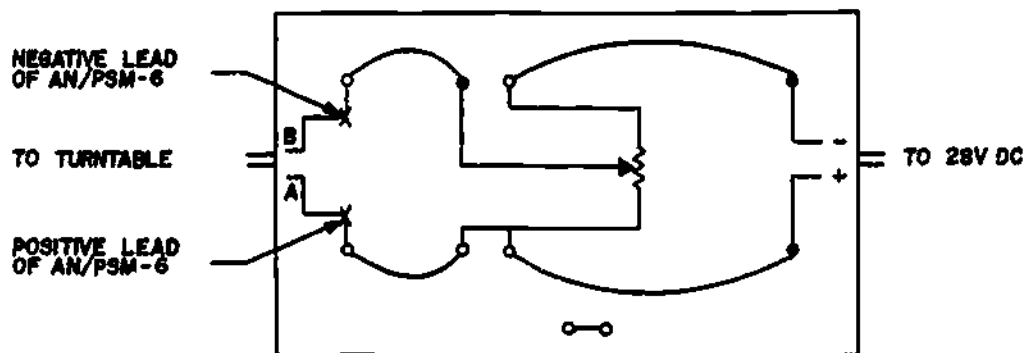

Figure 2. Power Control Panel Wiring Diagram.
(1) Make sure that the turntable RATE CONTROL is in the OFF position. Plug the turntable into a 115V AC, single phase, 60Hz outlet.
(2) Wire the power control panel as shown in figure 2.
(3) Prepare the AN/PSM-6 for making DC voltage measurements and connect it to the points indicated on the power control panel in figure 2. Be sure that you observe the polarities when making this hookup.
(4) Plug the cannon plug on the power control panel into the connector on the turntable.
(5) Rotate the potentiometer on the power control panel fully clockwise.
(6) Connect the power plug on the control panel into a 28V DC outlet.
(7) Watch the gyrorotor and slowly turn the potentiometer counterclockwise. When the rotor begins to turn, stop turning the potentiometer and record the voltage reading of the PSM-6. It is reading _____ volts. This value should be 15 volts or less.